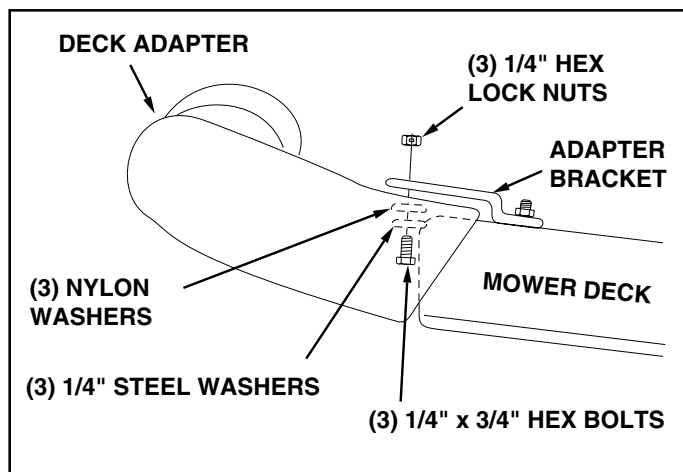

FIGURE 26
7. With deck adapter positioned correctly over the discharge opening, use the adapter bracket as a template and drill three 9/32" diameter holes in the top of the deck adapter. See figure 26.
8. Bolt deck adapter to bracket using three 1/4" x 3/4" bolts, nylon washers, 1/4" flat washers and 1/4" hex lock nuts. Nylon washers should be against the inside of the deck adapter. See figure 26.